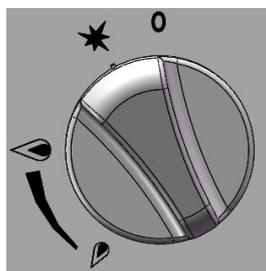

Fig. 3
②And then axial press the front air valve knob, left 30 degrees, to the fire position ★ (Fig. 3).
③At the fire position, completely press the knob, meanwhile light the fire by pilot with another hand. Keep pressing the knob about 10–15 seconds, and observe stability of fire.
④If the fire is not lit, please repeat the above steps until the fire is ignited.
①When the control knob is rotated to the fire position ★ (Fig. 3), the main fire burner flame is extinguished, but the pilot light will continue to work.
②Axial press the knob to rotate knob clockwise continually, so that the direction of the knob on the "0" position, at this time, the fire extinguished,